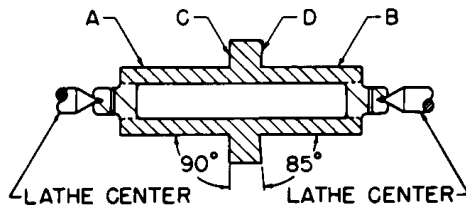

FIGURE 28
2. Nozzle laps must be remachined to recondition the lapping surfaces. Place the nozzle lap in a lathe between centers (see Figure 28, below). The surfaces marked A and B must be running concentric.